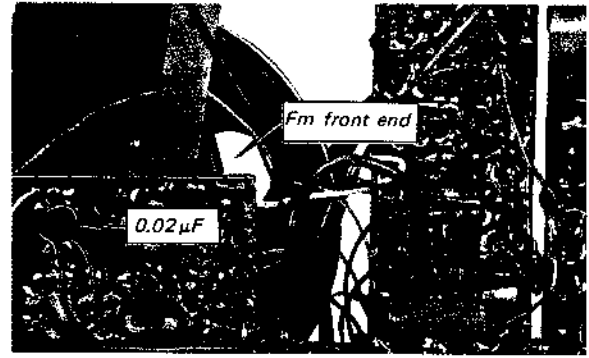

Fig. 3-18 Interruption of a-m local oscillator operation
2. Shunt the local oscillator capacitor CV-A2 with a 0.02 μ F capacitor to kill the local oscillator's operation as shown in Fig. 3-18.